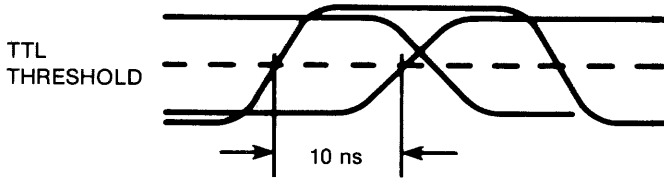

Figure 5.8
- b. Adjust W1 (R14) for 10 ns between the  $\overline{WE}$  rising edge and the first address edge. (See Figure 5.8).